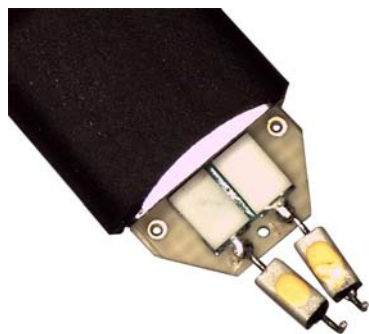

Figure 98 N2836A ZIF Probe Head
- 2 Prepare the N2836A solder-in probe head for connection to the PV fixture as shown in **Figure 98**. Shape the leads as shown with the resistors angled until they almost touch.